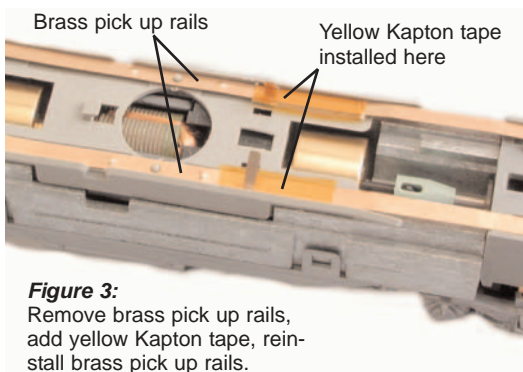

Figure 3:
4. Remove the brass pick-up rail from one side of the locomotive, being careful not to bend it. Wrap a small piece of yellow Kapton tape (supplied with the Digitrax decoder) around the rail just to the front of the dimple (between the dotted lines in photo, right). The tape should wrap around the outside edge to ensure the brass motor clip is completely isolated from the brass pickup rail when it is reinstalled. Trim excess tape on the INSIDE edge of the brass pickup rail and reinstall it in the locomotive, lining it up over the position pin. Repeat the process for the other brass pickup rail. (**Figure 3**)